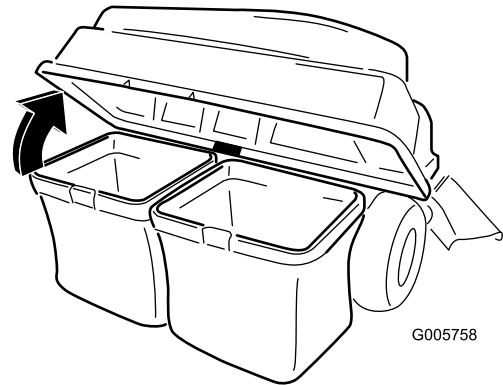

Figure 32
4. Raise the bagger hood (Figure 32).